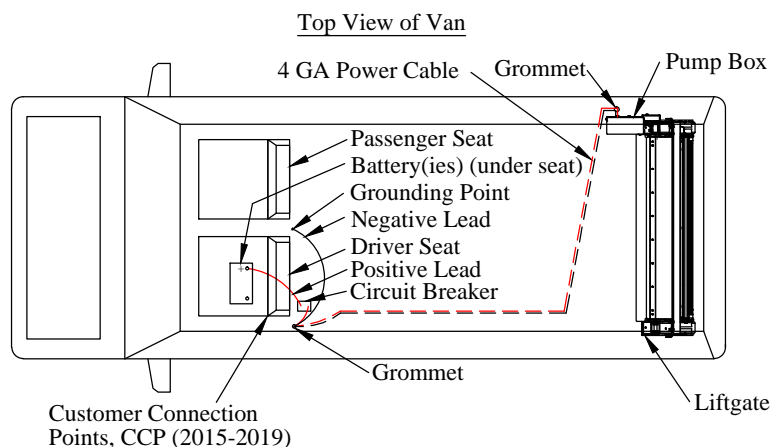

Figure 21: Electrical routing.
5. **Route** the power cables under the vehicle from the liftgate, along the frame, to a location under the driver door (Figure 21).